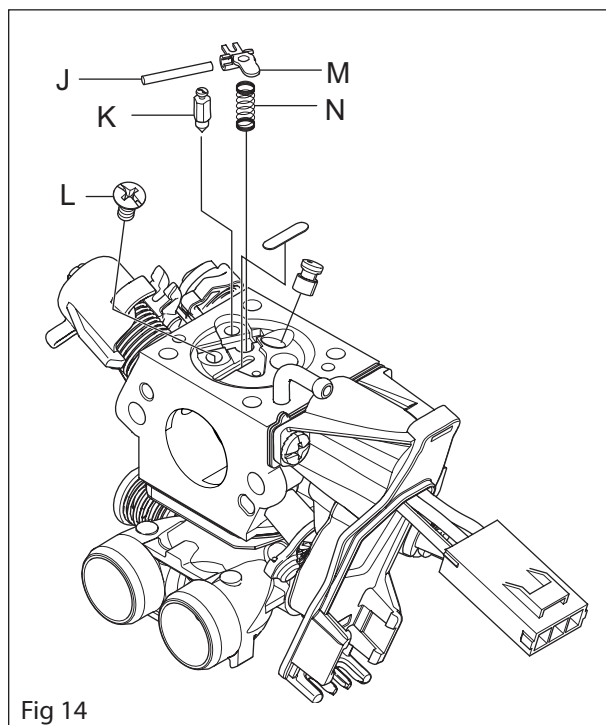

Fig 14
5. Assemble needle valve (K) with lever arm (M), shaft (J) and spring (N), and tighten screw (L) (Fit the expansion washer). See figure 14.